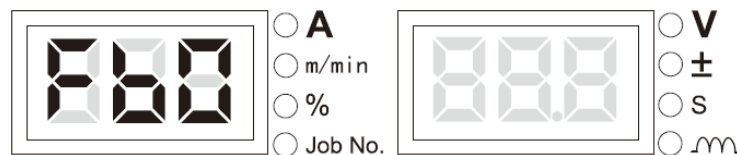

Figure 3-40 FB0 option screen
1. Access the internal menu, switch the knob on the control panel of the welder to **FB0**. The LED screens display the message shown in Figure 3-40.